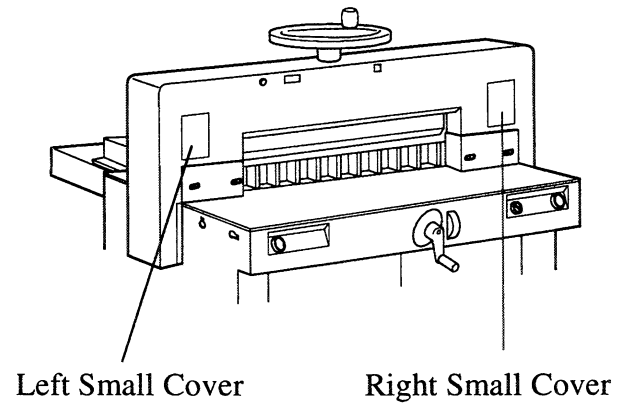

Fig. 6-1
- Open right and left small cover (*Fig.6-1*) to access knife holder slide.